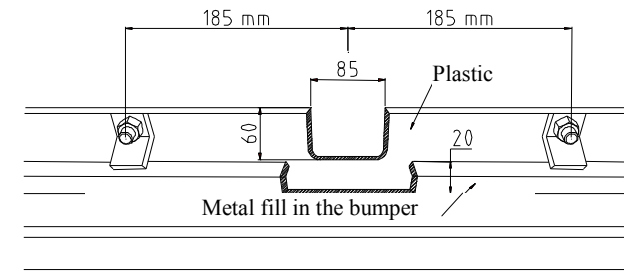

Fig. 2
3. Insert the main bar of towing hitch into chassis and twist with M12x40mm (pos. 7) bolts in marked points (pos. A).
5. Disassemble the towing hitch an then join with the bumper after previous cut a fragment in the bumper. Look the fig. 2.
7. Apply the distance sleeve $\varnothing 17$ mm, L=35mm (pos. 4) to the hole (pos. B) and fit with the M10x100mm (pos. 6) bolt. By the holes (pos. C) fix with the M10x40mm (pos. 7) bolts an the attached washers (pos. 5).
8. Fix body of the automat and place tow-ball according to supplied instruction. Note! Remember to place socket plate (pos. 3) as shown on the drawing 1.